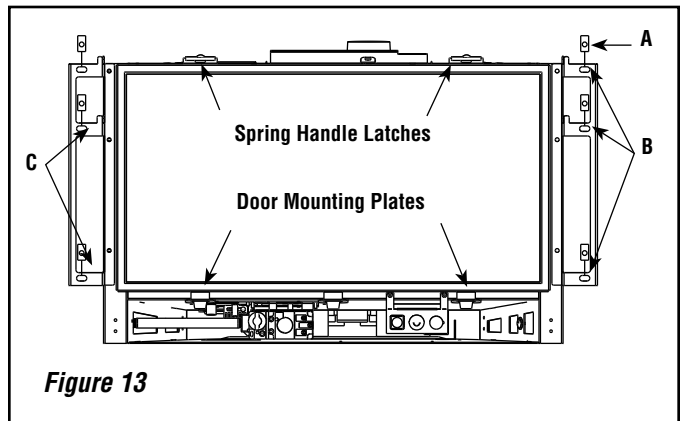

Figure 13
1. Remove the speed nuts (A in **Figure 13**) from the parts bag and install (with the flat surface forward) on the six holes in the surround brackets - three on each side of the insert (B in in **Figure 13**). A flat bladed screwdriver may help in installing the nuts.
A number of different face finishes and styles are available for your appliance. The Arch face comes with a sight obstructor that must be installed prior to installing the surround panels and face. Instructions for installing the sight obstructor are included with the face. The faces come with hooked brackets. To install the face, hang the hooked brackets on the surround brackets (See C in **Figure 13**).